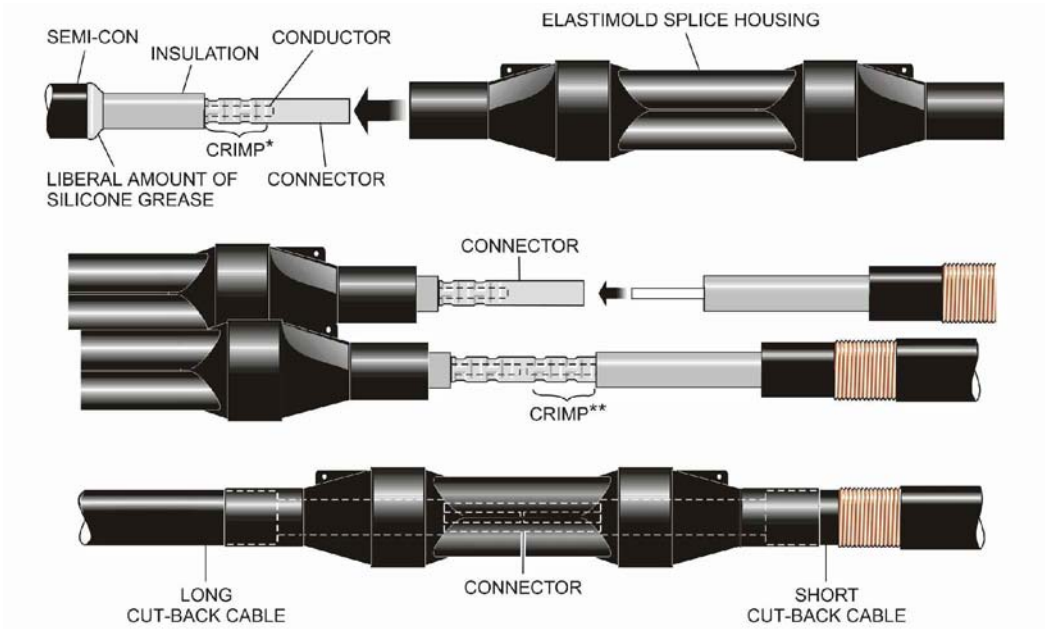
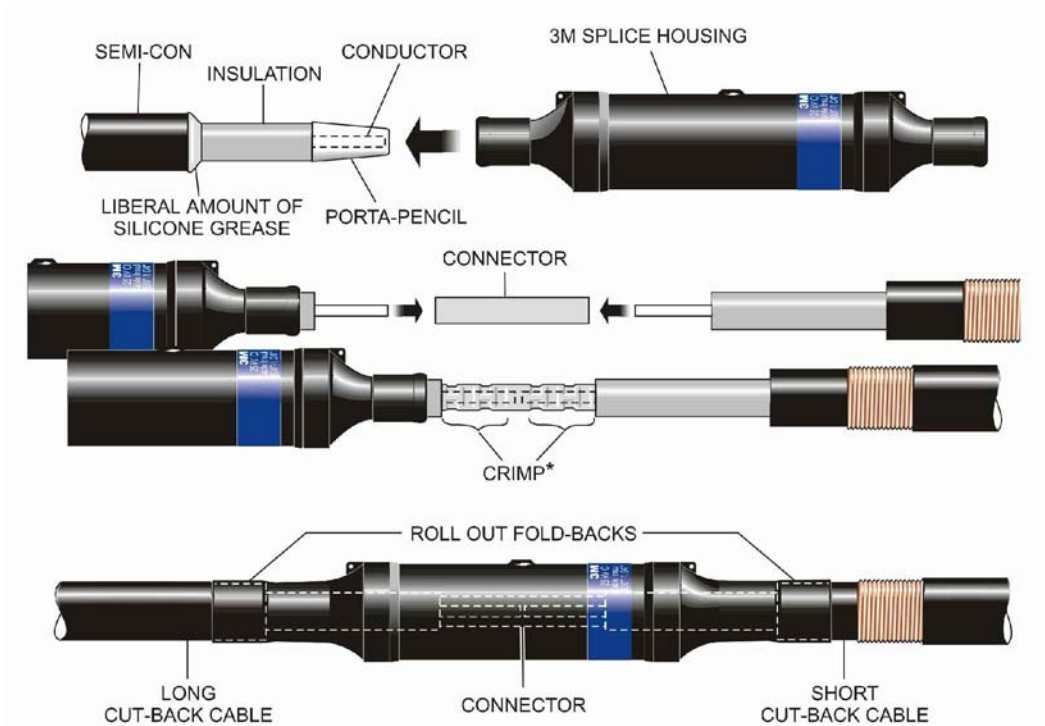

FIGURE 4
FIGURE 5
STEP 25: SLIDE THE SPLICE HOUSING INTO FINAL POSITION BY CENTERING IT BETWEEN THE SEMI-CONDUCTING SHIELD CUTBACKS AS SHOWN IN FIGURE 4 OR FIGURE 5.
STEP 26: IF A 3M MODEL 5451 SPLICE IS BEING INSTALLED, USE THE FINGERTIPS OF BOTH HANDS TO ROLL OUT THE FOLDBACKS ON BOTH ENDS OF THE HOUSING. SEE FIGURE 5.